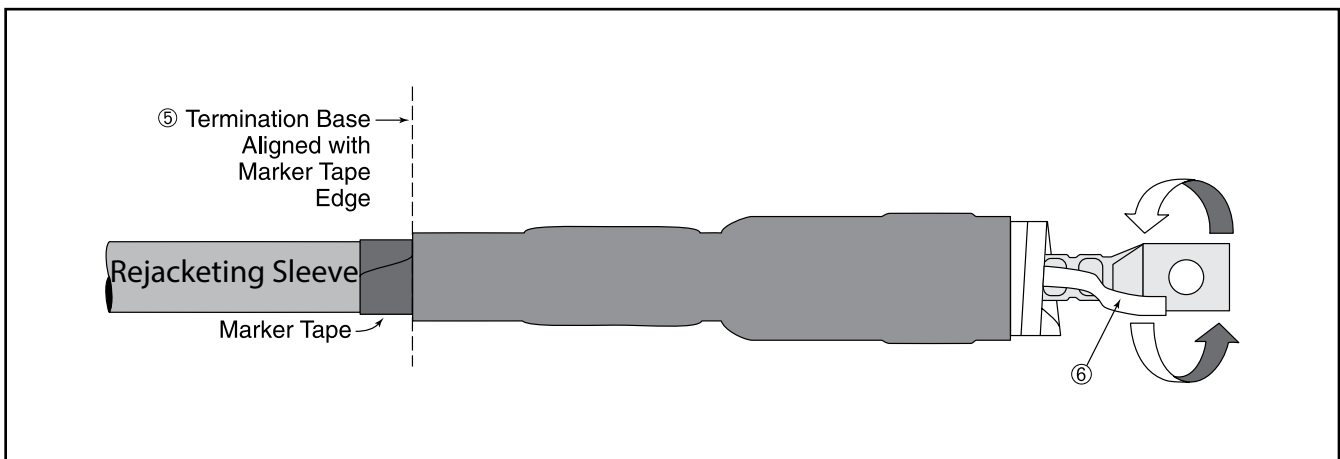

Figure 14
- (c.) Align the base of the termination (not the plastic core) with the installation marker tape as shown (Figure 14).
- (d.) Grasp the loose white core ribbon. Pull and unwind counter-clockwise around cable end (Figure 14).